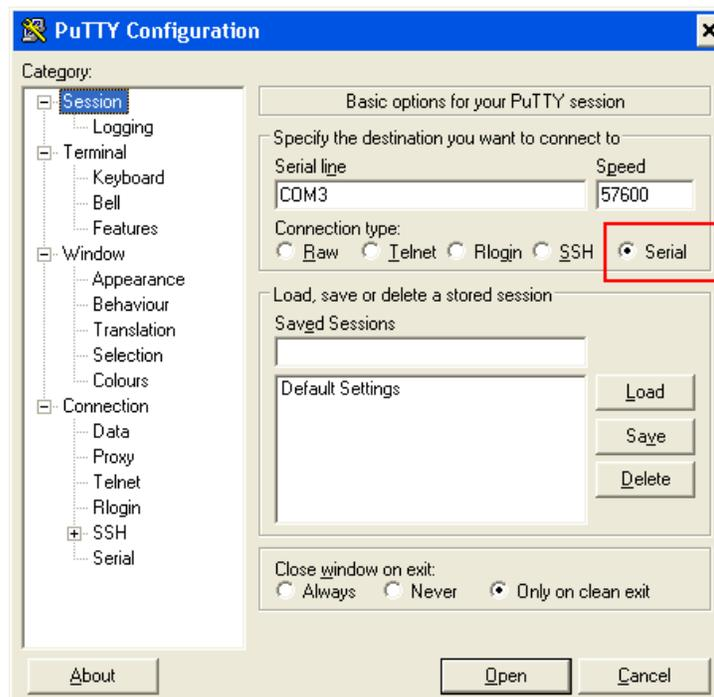

Figure 16: Basic Options For a Session
4. Select **Category** > **Session** in the PuTTY Configuration window. The basic options for PuTTY session appear. Select **Serial** radio button under Connection type menu (Figure 16) and click **Open**.